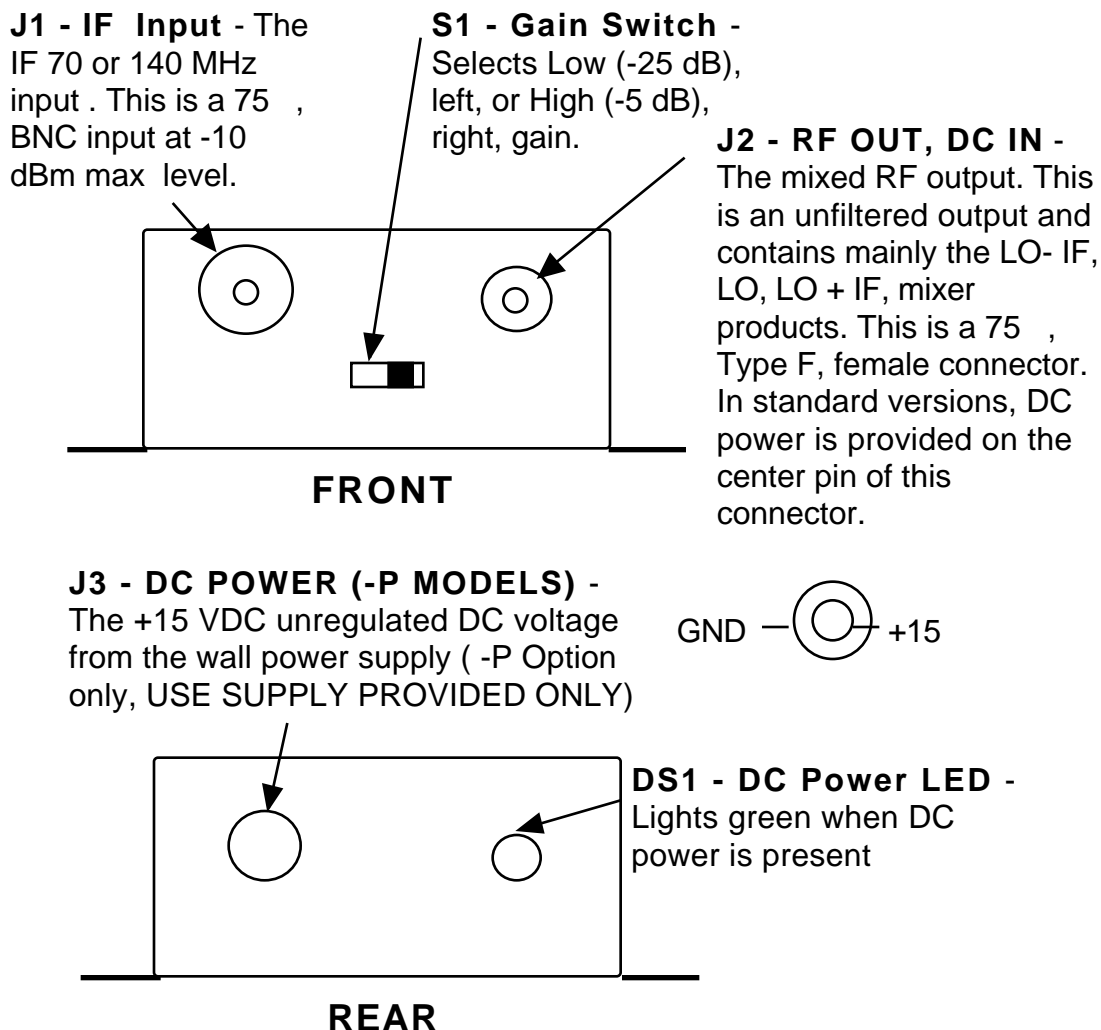

Figure 2.3 2006-11, -12 Input, Output, Power LED, External DC In (-P Option)
2.2 Controls and Indicators - There are no controls. A green LED indicates presence of DC power (Figure 2.3).
2.3 Input / Output Signals - Figure 2.3 shows the input and output signals to the 2006-11, -12.
- 5.) Connect -10 dBm (max., Low Gain) or -30 dBm (max., High Gain) signal to IF In, J1 (Figure 2.3)